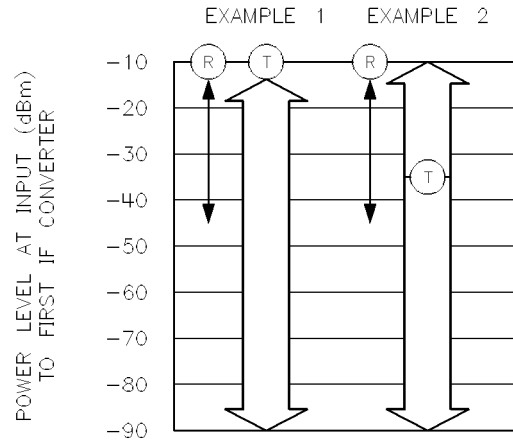

Figure 4-26. Dynamic Range Considerations
Figure 4-26 shows these dynamic range considerations. Example 1 shows levels at calibration for a passive device with both reference (R) and test (T) inputs near -10 dBm. When calibrated at these levels, the maximum dynamic range is available for insertion loss measurements.